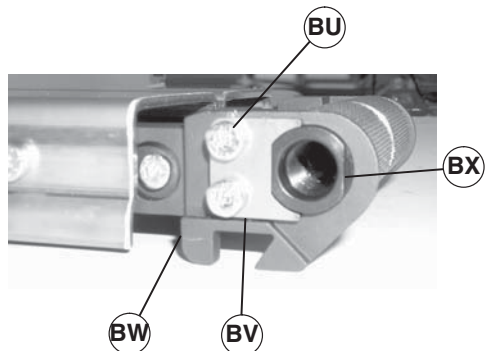
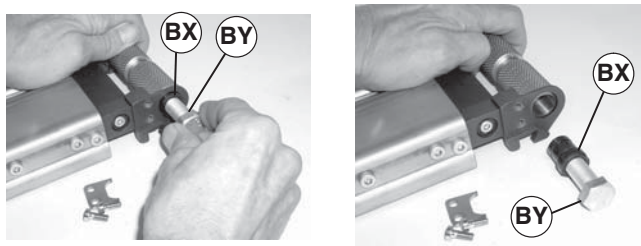
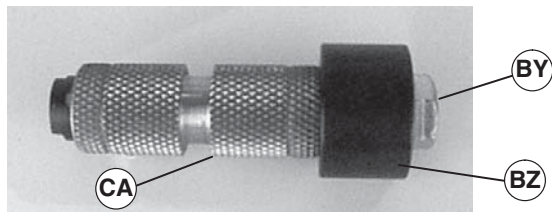

Figure 38
Figure 39
Figure 40
1. Remove two M5 low head screws (Figure 38, item BU) and clip (BV) from head plate (BW).
3. Install bolt (part # 906-278*) (Figure 39, item BY) into retaining sleeve (BX). Pull out on bolt to remove retaining sleeve.
If retaining sleeve(s) (Figure 38, item BX) and (Figure 39, item BX) does not slide out::
- Assemble removal tool (part # 25-09*) (Figure 40, item BZ) and bolt (part # 906-278*) (BY) on spindle (CA), as shown
- Tighten bolt (BY) to remove bearing sleeve (Figure 38, item BX) and (Figure 39, item BX) from spindle (Figure 40, item CA).